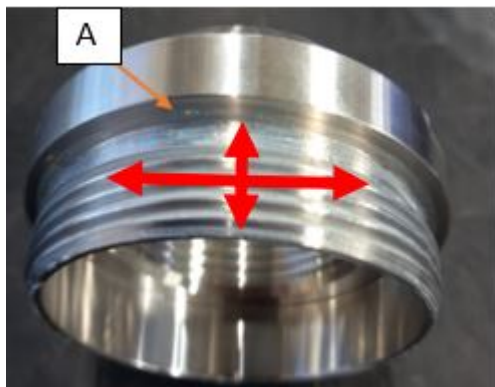

Fig.9
1. Lightly grease the screws (13) according to figure 9 along the full circumference along the thread pitch.
2. Insert the bush (16) into the shaft (only for TB 2").
3. Insert the bush (8) into the housing (1).
4. Push the disk (9) onto the shaft (6) and insert it into the bush (8).
5. Insert the regulator (7) and then the motor (5) in the housing (1).
6. Lightly grease the inlet (3) according to figure 9 along the full circumference along the thread pitch. Front face A must remain free of grease!